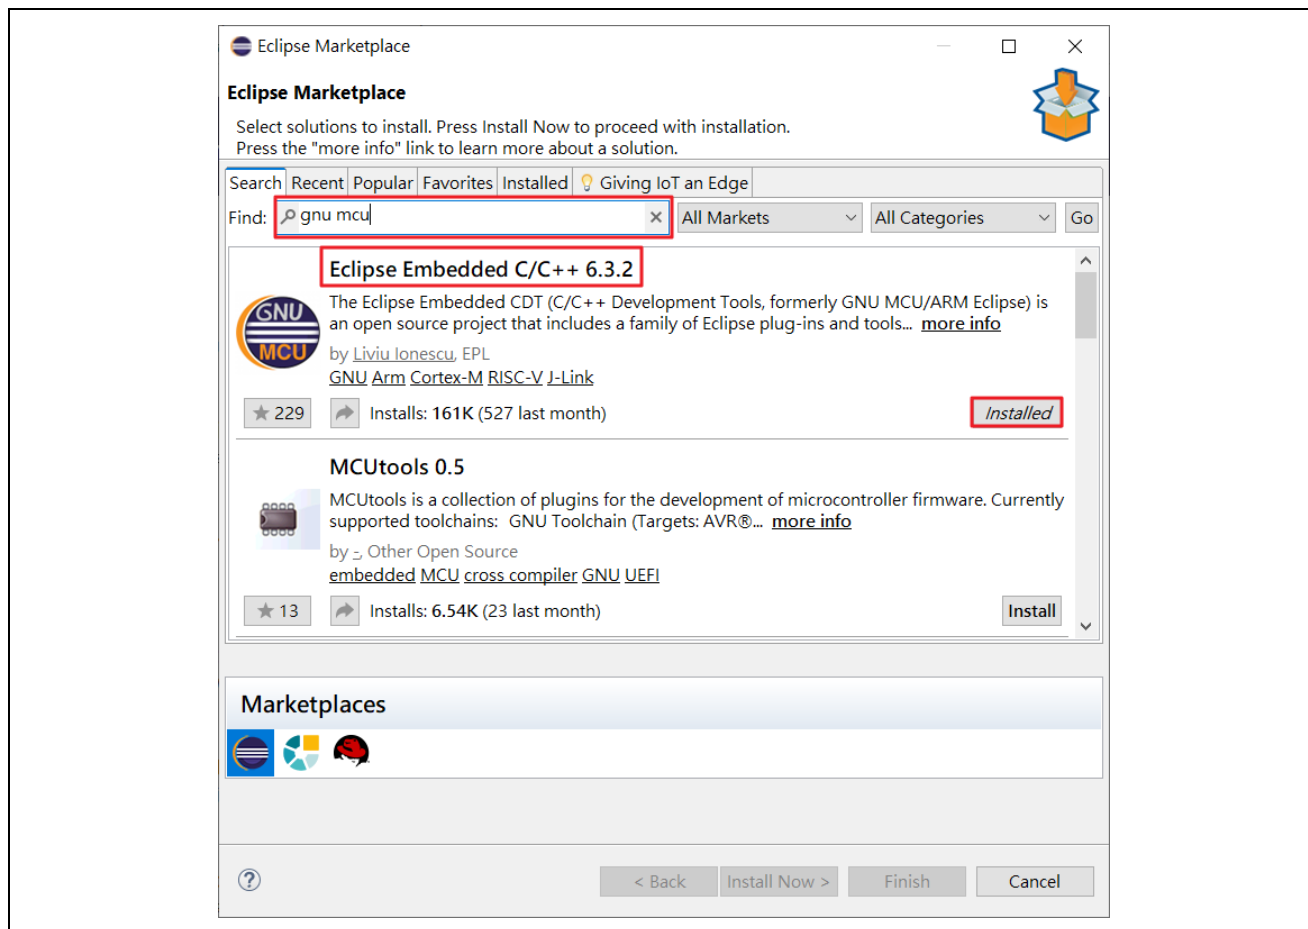

Figure 1-2 Install Plug-in
2. Input “gnu mcu” in the **Find** field, and then the search result will be shown as Figure 1-2. If there is a newer version found, click the **Install** button to install the required plug-in.